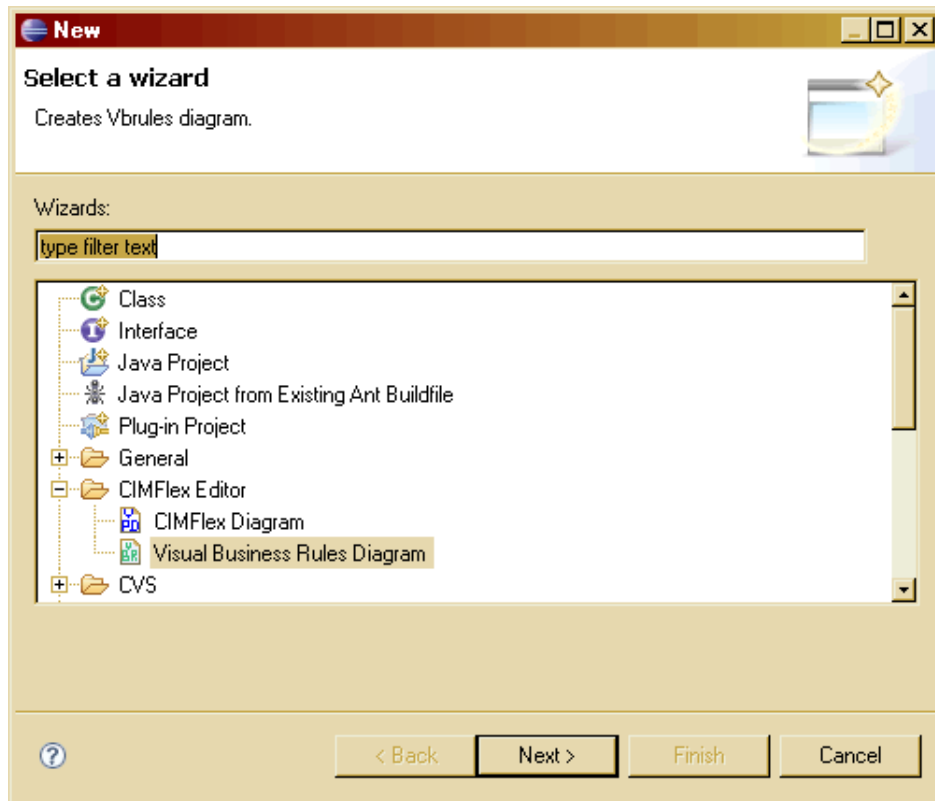

Figure 1. CIMFlex diagrams
**Step 3.** See if the section “CIMFlex” is present containing different diagram types of the CIMFlex tool (See Figure 1). If you see at least this section with wizards for different views, then the plug-in is configured correctly.